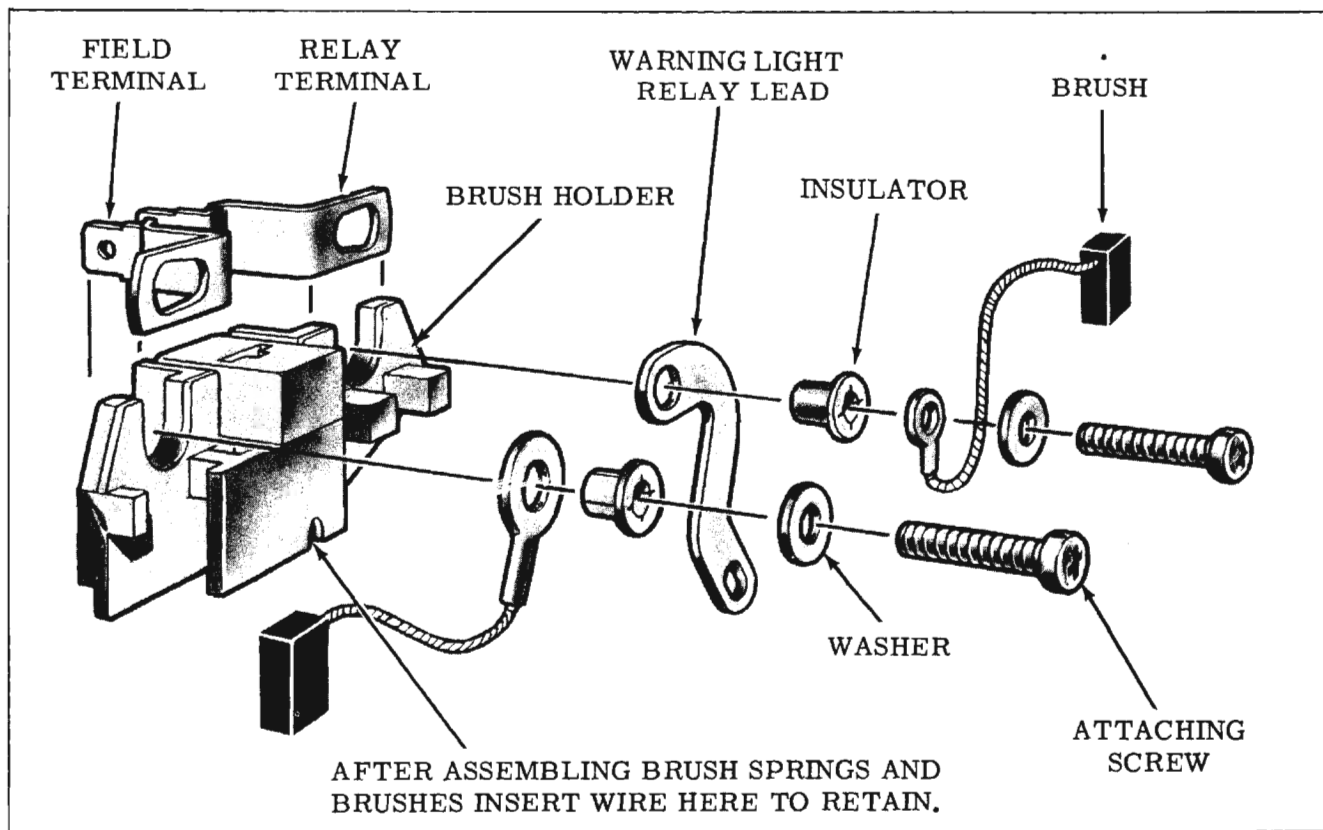

Fig. 14-25 Brush Holder Assembly
4. Assemble the brush holder as shown in Fig. 14-25. Install the brush springs and brushes into the brush holder and retain with a straight piece of wire inserted through the hole in the brush holder.